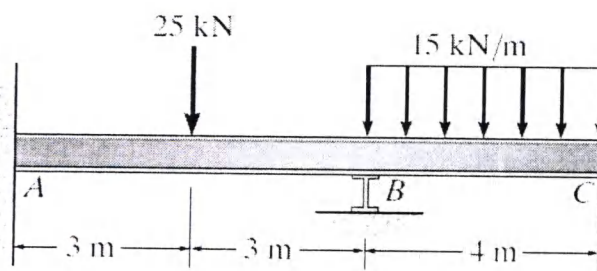

Figure 2
- Determine the reactions in the supports using slope deflection method and draw the bending moment diagram for the beam shown in Figure 2. [5]